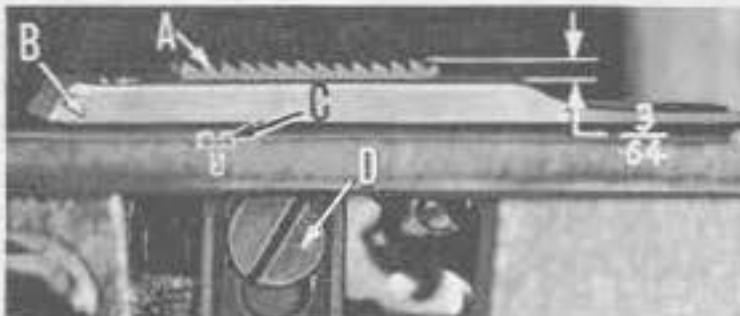

Fig. 8
Set the feed dog (A, Fig. 8) in the throat plate (B) so there is equal clearance on all sides. See that the tips of the teeth extend the depth of a tooth or approximately $\frac{3}{64}$ inch (1.19mm) above the throat plate and are parallel with the throat plate at high point of travel. Adjust the supporting screw (C), under the feed dog, to maintain this setting. Screw (D) is used to hold feed dog in position.